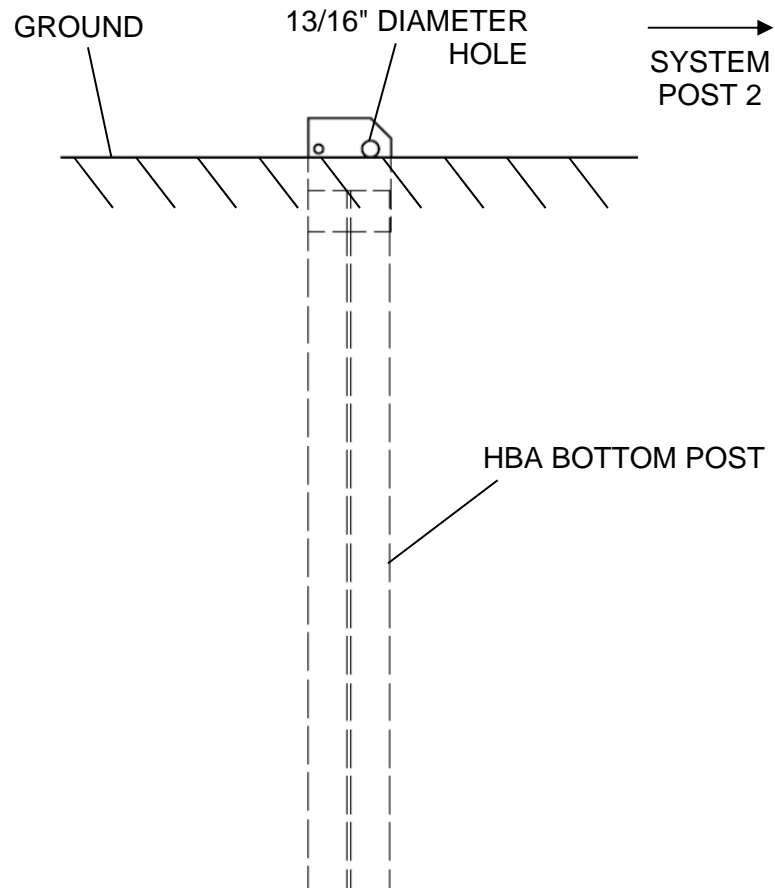

Figure 5 - HBA Post (Post 1) Placement
- 2.4 Place the HBA Bottom Post (i.e., Post 1) at the end post location (i.e., farthest from the existing guardrail). The bottom of the 13/16" diameter hole in the ears should be even with the ground (See Figure 5).